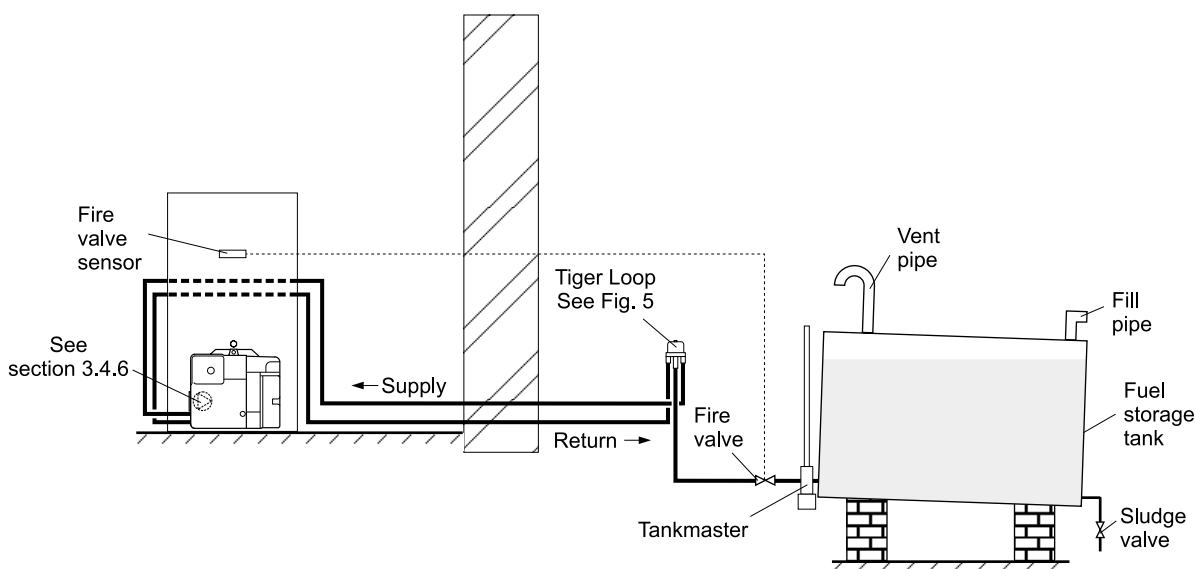

Fig. 4 - Tiger loop system
- A flexible fuel line, adaptor and $\frac{1}{4}$ " BSP isolation valve are supplied loose with the boiler for the final connection to the burner. If a two pipe system or Tiger Loop system is used, an additional flexible fuel line (900 mm) and $\frac{3}{8}$ " to $\frac{1}{4}$ " BSP male adaptor are available from Grant Engineering (UK) Limited.
- The use of a 'Tankmaster' and Tiger Loop is an ideal way of delivering an oil supply to the boiler. The Tankmaster unit, fitted to the storage tank, includes a filter, sight tube, shut-off valve and fire valve. A separate fire valve is required in the fuel line (outside) where it enters the building containing the boiler. See Fig. 4.
3.4.5 Tiger Loop system - (See Figs. 4 and 5)
- 2 The Tiger Loop is connected close to the boiler as a two pipe system (omitting the non-return valve) as shown in Fig. 4. Refer to the manufacturers instructions supplied with the Tiger Loop.